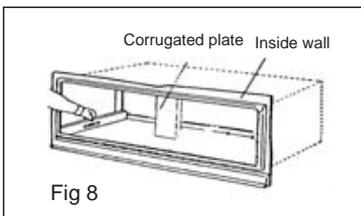

Fig 8
- Lintels should be used to support the block above the wall sleeve(Fig 8).The sleeve can not support the load of bricks/blocks(if directly under a window sill,use of lintel may not be necessary).